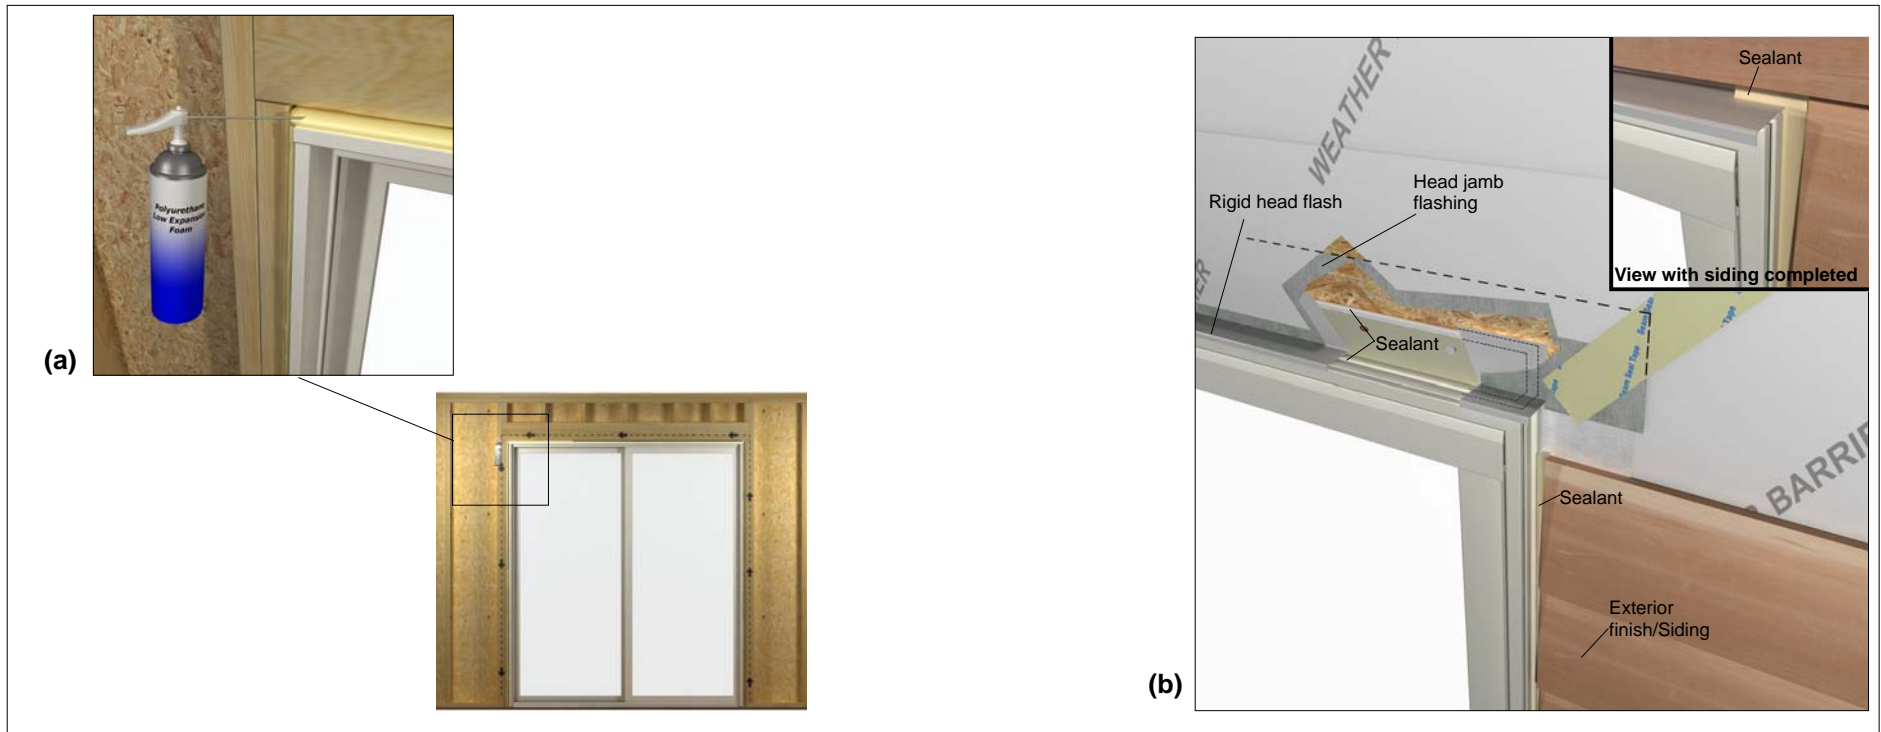

Figure 9 Sealing the installation.
2. To integrate the unit with the structure's interior air barrier, apply a bead of sealant between the jamb and interior finish prior to trim installation. See figure 9. The installation is now ready for interior trim application.